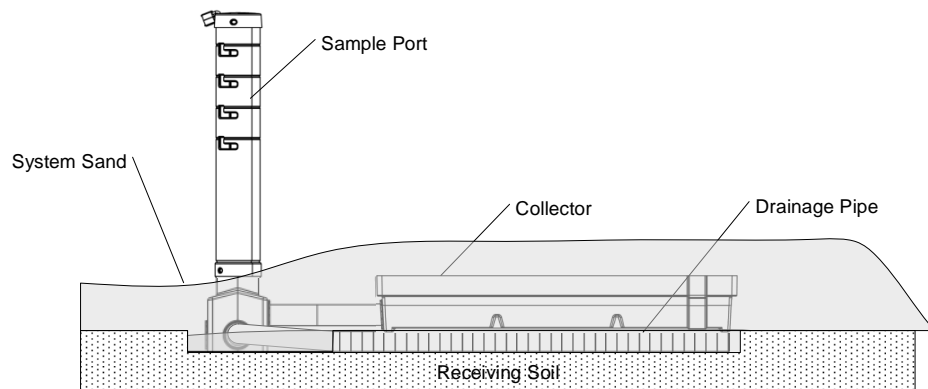

Figure 50
- Complete the installation of the sampling device as shown in Figure 50.